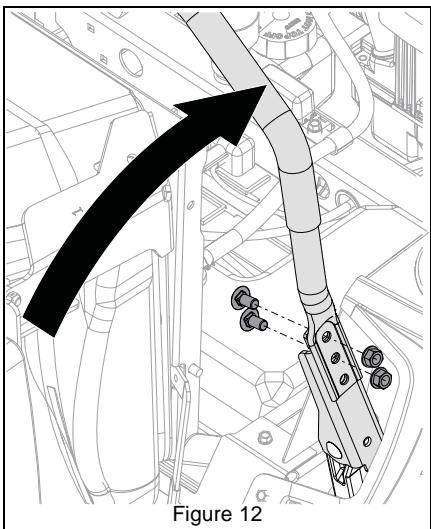

Figure 12
2. Place steering lever in the upright position and adjust lever height. See Figure 12.